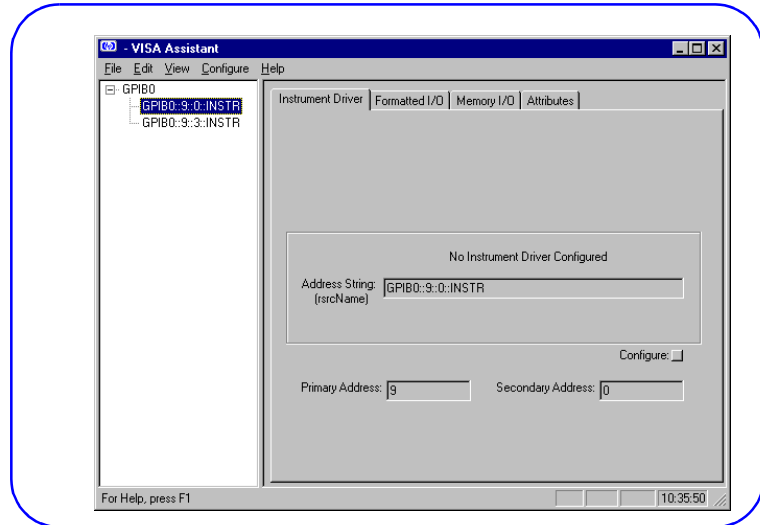

Figure 28. VISA Assistant Main Menu
- 2 To display the VISA Assistant Main Menu, click *Start|Programs|HP I/O Libraries|VISA Assistant* for a display similar to that in Figure 28. (For this example, we will assume only the HP E1406A Command Module and HP E1411B DVM are installed in the mainframe.)